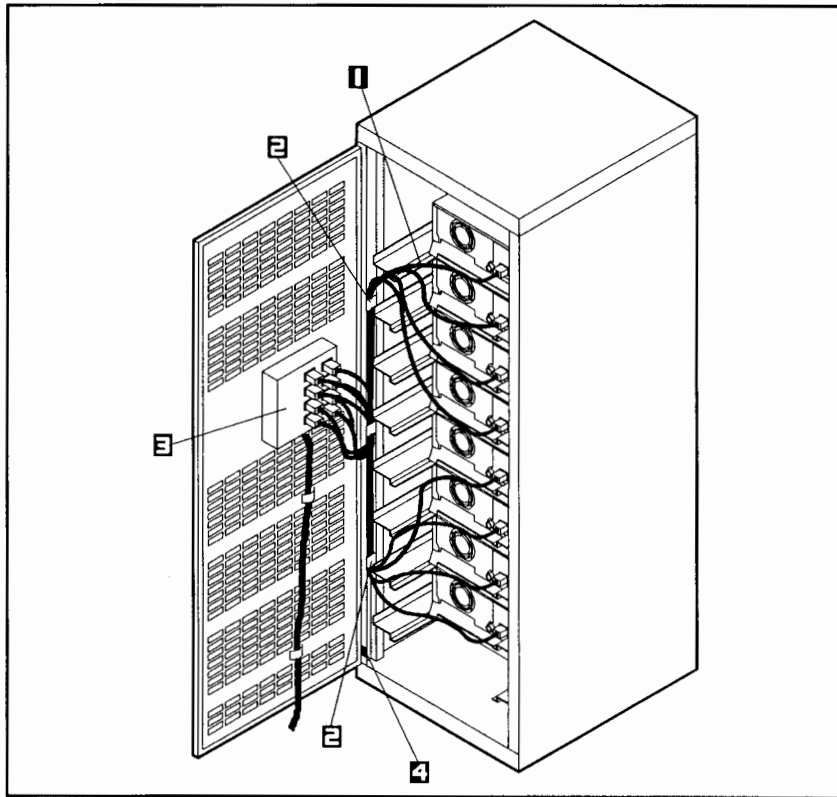

Figure 2-2. Routing Power Cords in an HP 46299A Cabinet
- Due to high leakage current, reliable ground circuit continuity is vital for safe operation of the HP 46299A Cabinet. Never operate the cabinet with the ground conductor disconnected. If there is any doubt about the integrity of the ground provided by the supply circuit, a redundant ground path should be created. An additional grounding terminal is installed at the base of the left rear cabinet column for this purpose. See Figure 2-2. To create a redundant ground path, connect a conductor (12 AWG minimum) from the grounding terminal to a reliable earth ground. Do not use conduit as the grounding conductor because electrical shock can result if the ground conductor opens.
- When installing the disk storage system in an HP 46299A cabinet, make sure the power cables are routed properly to avoid any pinching or binding when the cabinet door is closed. The proper routing of the power cords is shown in Figure 2-2.
Route the disk storage system power cords inside the left rear cabinet column. The four power cords from the upper half of the cabinet should be routed down through the top and center cable clamps and then to the PDU. The four power cords from the lower half of the cabinet should be routed up through the bottom and center cable clamps and then to the PDU. Proper cable routing is shown in Figure 2-2.